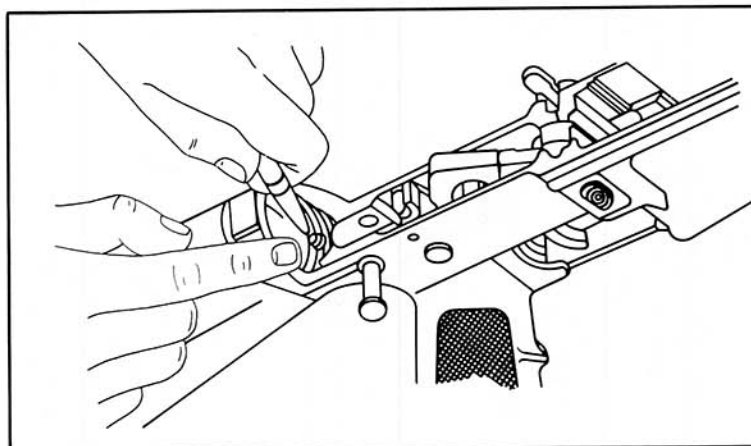

Figure 2-10 Depress Buffer Retainer
- f. While holding the lower receiver depress the buffer retaining pin slightly, see Figure 2-10. Slowly ease the buffer and return spring forward until they are clear of the buffer retaining pin. It may be necessary to depress the hammer to allow the buffer and return spring to clear it as they are pulled out of the butt and receiver extension assembly.